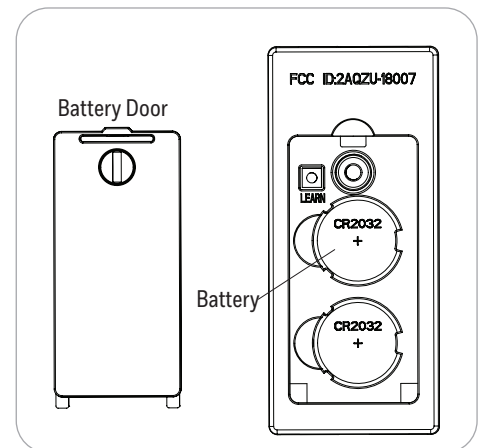

Figure 5.9
- Remove the battery door from the back of the remote using a flat-head screwdriver (not included). Insert the two CR2032 batteries into the remote; ensure the positive pole of the batteries face up (as pictured) and then replace the battery door. Press the HIGH SPEED button to ensure the LED indicator illuminates and the fan turns on (Figure 5.9).